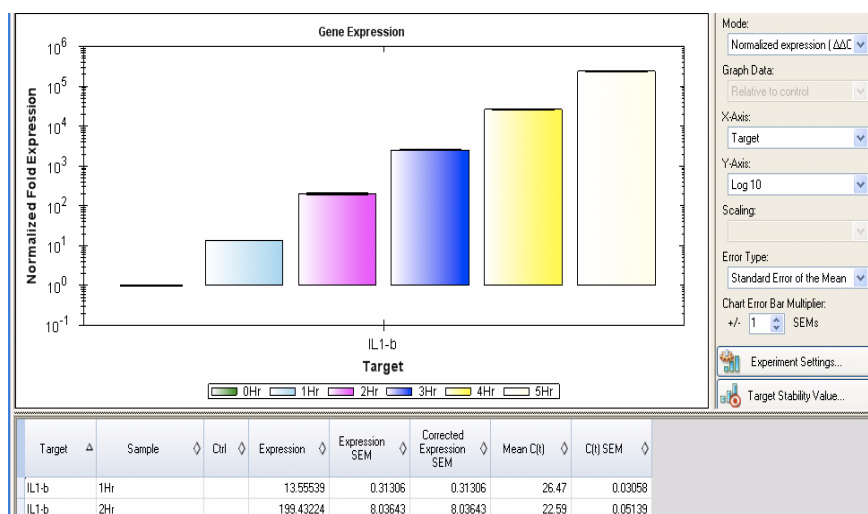

Figure 71. Target vs. Sample option results.
- **Target vs. Sample.** Only the well sample name is used in the gene expression calculations. In the results shown in Figure 71, only the sample name is used in the analysis (0 hr, 1 hr, 2 hr, etc)